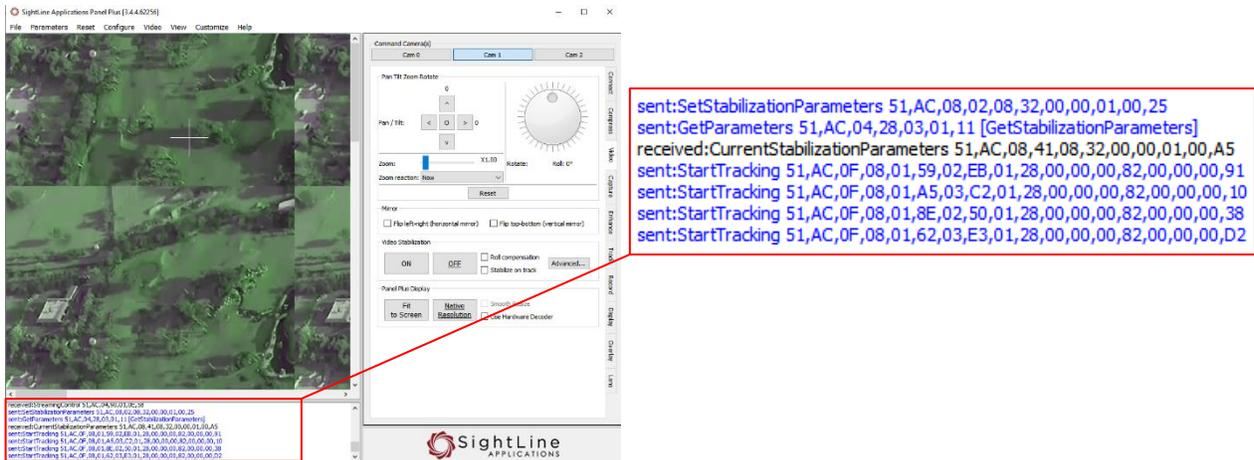

Figure 3: Verbose Area in Panel Plus
Figure 3 shows how the software distributes the flow of data to the physical components.
*To evaluate the SVP commands formed by this project, SightLine recommends using Panel Plus to generate the same commands and compare them to the project commands. Raw SVP commands in Panel Plus are shown in the verbose area of the Panel Plus GUI when an SVP command is sent or received by Panel Plus as shown in Figure 3.*